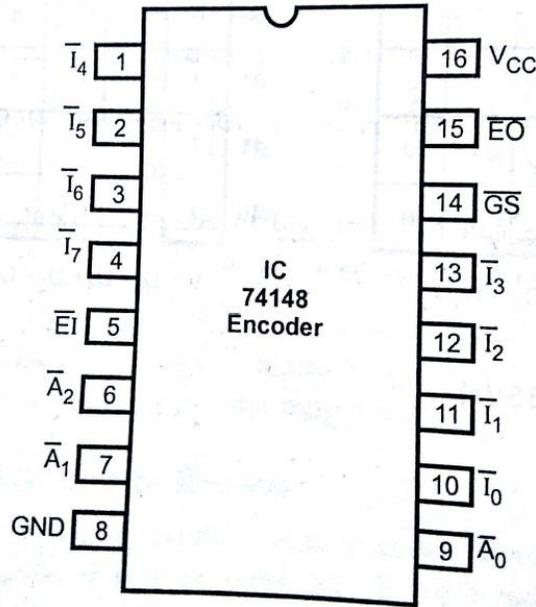

Figure 5.20: Pin diagram of 8-input Priority Encoder
**Design a 32:5 priority encoder:** To design a 32:5 priority encoder we require five, 8-bit Priority Encoder IC 74x148s and respective logic gates. The design arrangement is represented as shown in the figure 5.20